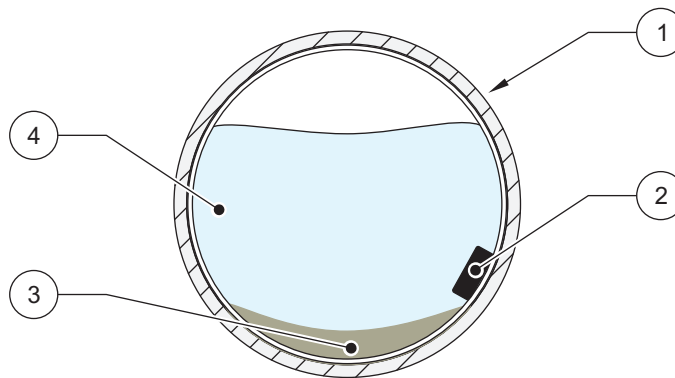

Figure 30 Avoiding Silt when Mounting the Sensor
**Note:** If there is a large amount of silt at the bottom of the pipe, rotate the band until the sensor is out of the silt (Figure 30 on page 54), assuring that the sensor remains below the minimum expected water level at all times. The silt should not be disturbed and must be measured frequently.